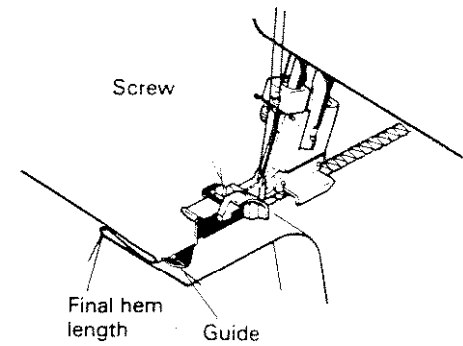

Fig. 2
2. Place fabric under the presser foot with the 'wrong' side uppermost. Feed the folded edge through the guide in the front of the foot and lower the presser foot lever. Try a stitch (or several stitches) on a spare piece of the actual fabric, and adjust the guide so that the needle just catches the fold. Adjust the guide by means of the small screw on the top of the foot - see Fig. 2.
3. When correctly set, sew the hem. The outside edge will be cut away by the machine - see also Fig. 2. After completion, open out and press again. The stitches should be almost invisible on the 'right' of the fabric - see Fig. 3.